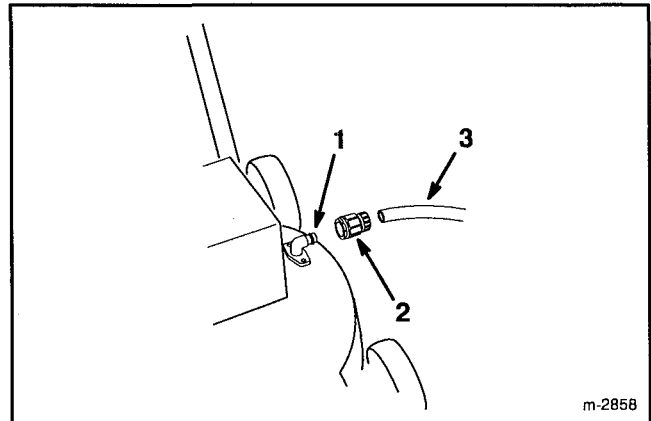

Figure 31
2. Attach a quick disconnect coupling (sold separately) to the end of the garden hose. Attach coupling to mower washout fitting and turn water on high (Fig. 31).